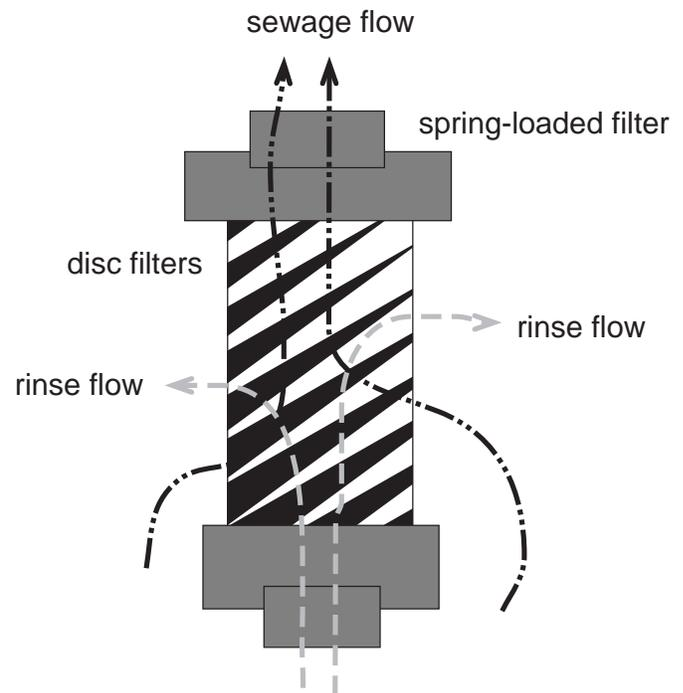

Figure 3. Disk filter
- **Disc filters** were recently developed in Israel and use serrated discs as the filtering medium (Figure 3). They are more expensive than sand filters, but have fewer problems. The manufactured medium allows flexibility in waste strength and the filter maintenance can be completely automated with pressure gauges and control panels.